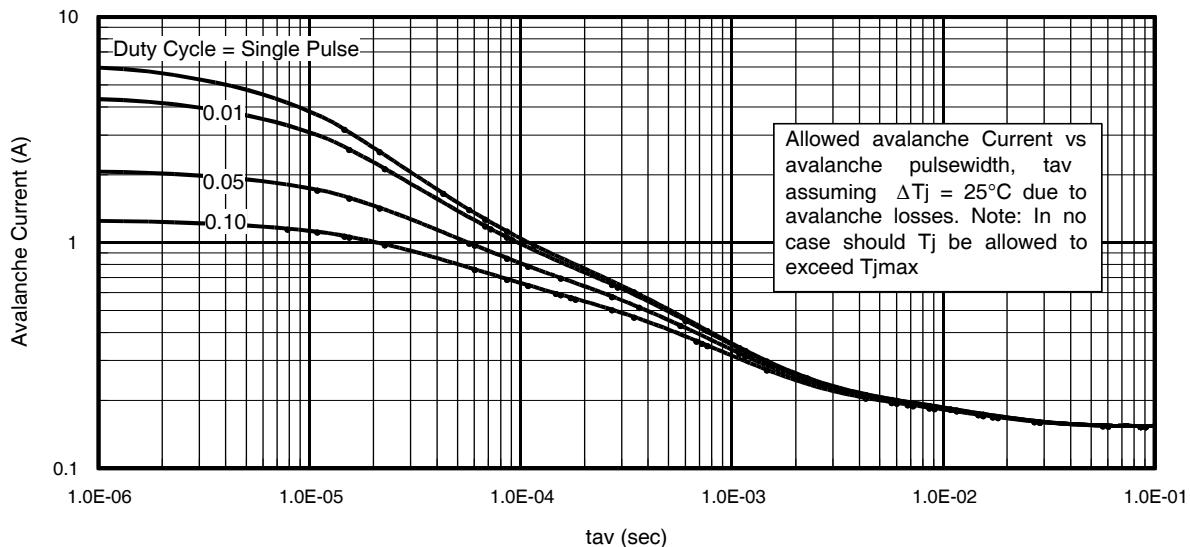

Fig 14. Typical Avalanche Current Vs.Pulsewidth
① Repetitive rating; pulse width limited by max. junction temperature.
② Starting $T_J = 25^\circ\text{C}$, $L = 0.32\text{mH}$, $R_G = 25\Omega$, $I_{\text{AS}} = 13\text{A}$.
③ Pulse width $\leq 400\mu\text{s}$; duty cycle $\leq 2\%$.
④ R_θ is measured at T_J of approximately 90°C .
⑤ Limited by $T_{j\text{max}}$. See Figs. 14, 15, 17a, 17b for repetitive avalanche information
Notes on Repetitive Avalanche Curves , Figures 14, 15:
7. $\Delta T = \text{Allowable rise in junction temperature, not to exceed } T_{jmax} \text{ (assumed as } 25^\circ\text{C in Figure 14, 15).}$